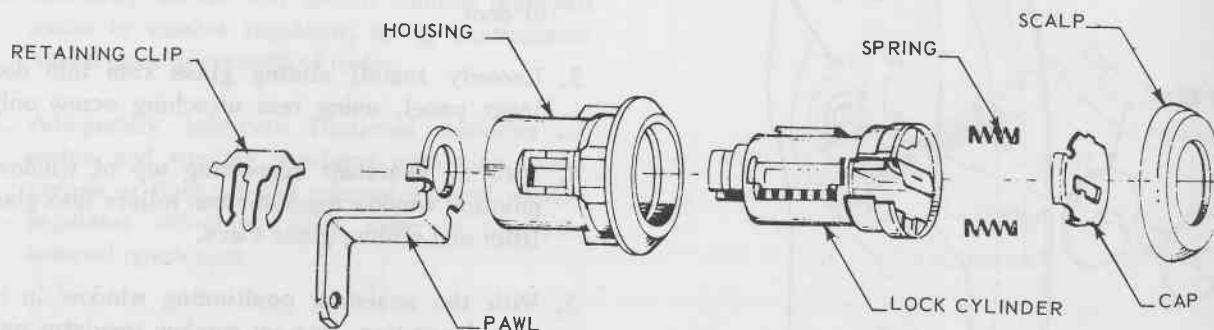

FIG. 7 - 8
3. Remove screws securing remote control to door inner panel (see Figs. 7 - 1, 7 - 2 or 7 - 3) and from inside door, disengage control from remote control rod, then remove control through aperture in door inner panel.